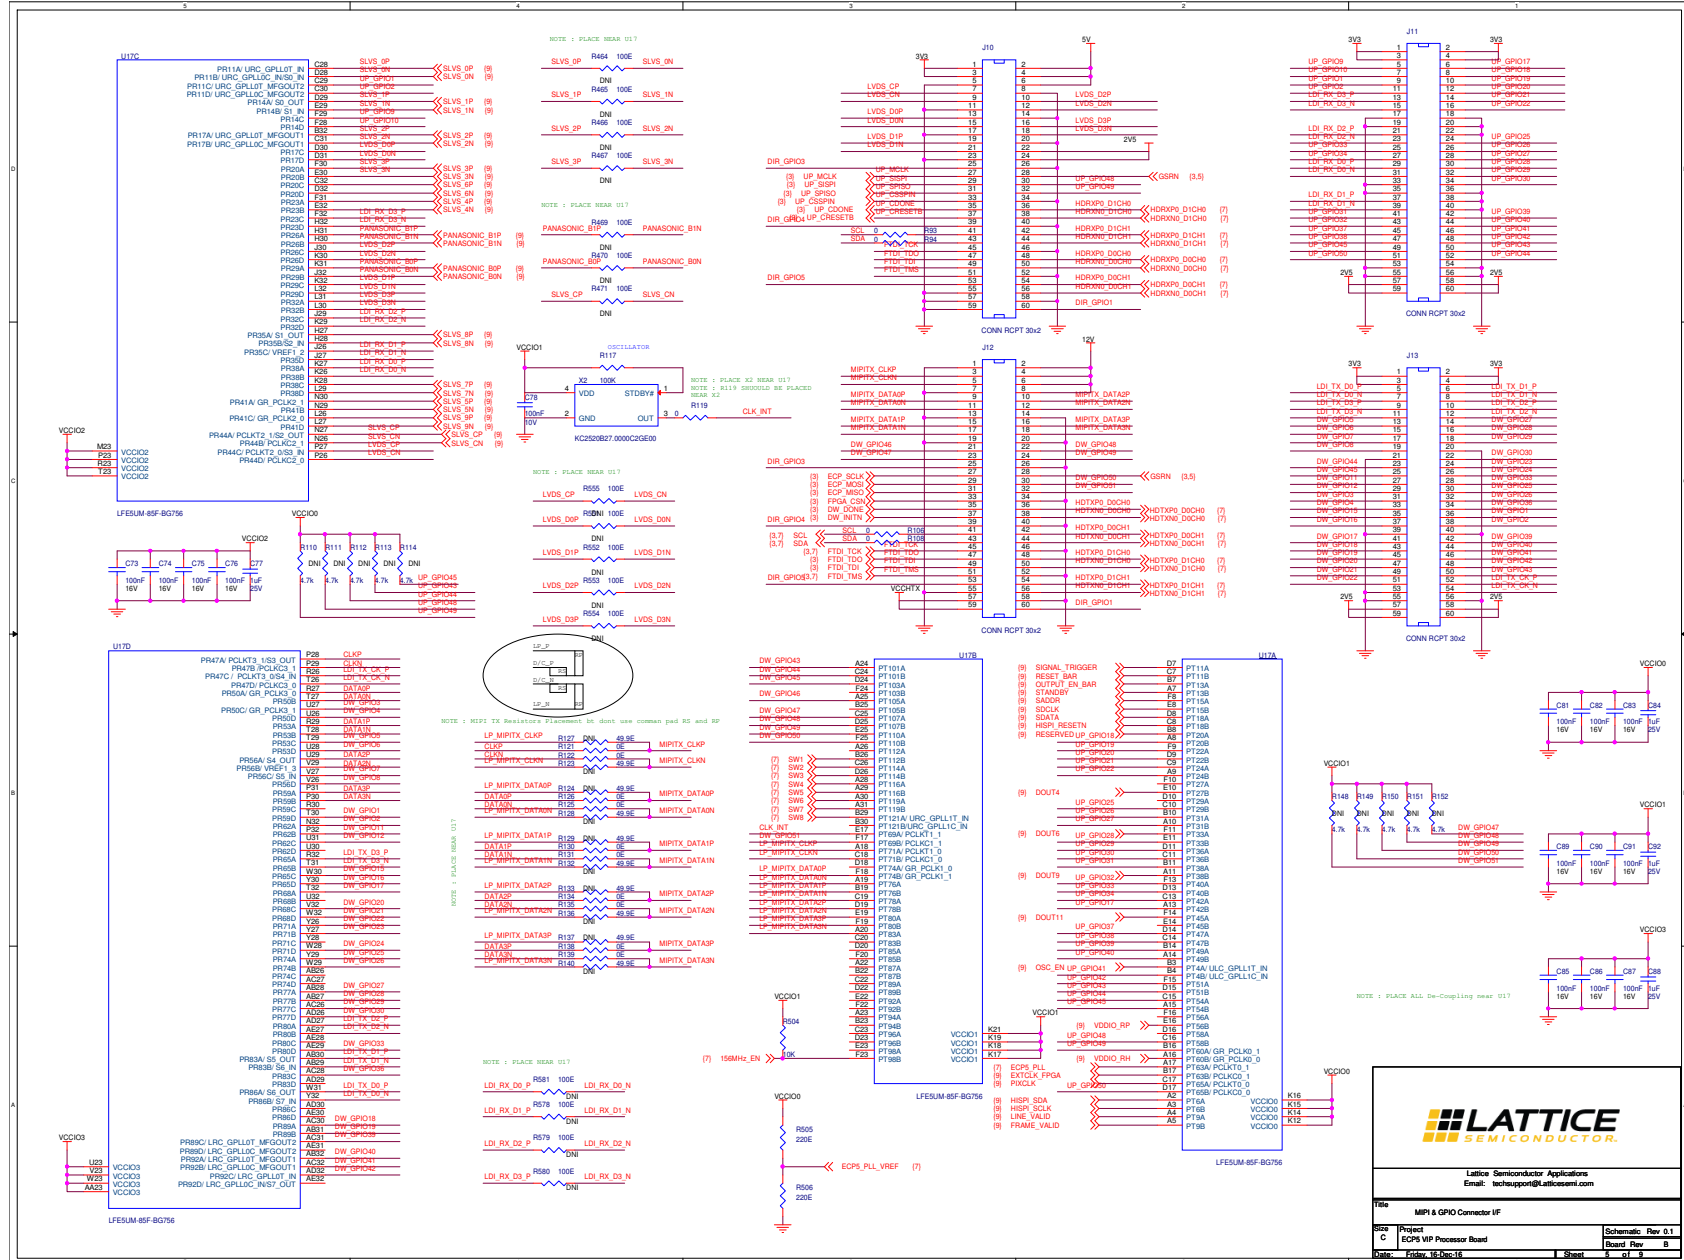

Figure C.2. MIPI and GPIO Connector Interface Revision B
- The ECP5 SPI interface is routed directly to the downstream connector J12. Later revisions of the board have this interface open with the ability to bridge using 0 Ω resistors, R588, R589 and R590. See Figure C.2 for the schematic of Revision B.